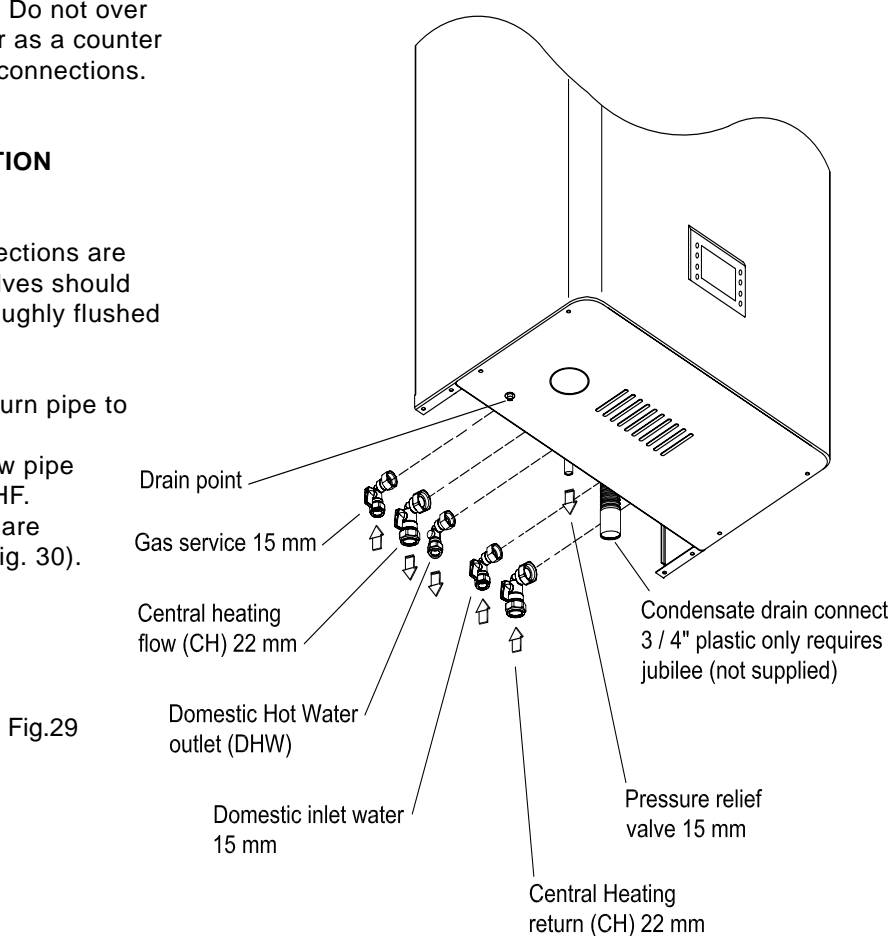

Fig.29
Remove plastic caps from boiler connection and fit valves as per fig. 29 using washers provided.
5.21 GAS CONNECTION (Fig. 29)
5.22 CENTRAL HEATING CONNECTION (Fig. 29)
5.23 DOMESTIC HOT WATER CONNECTION (Fig. 29)
The condensate drain connection is a flexible 3/4" pipe and is therefore adjustable Fig. 29.